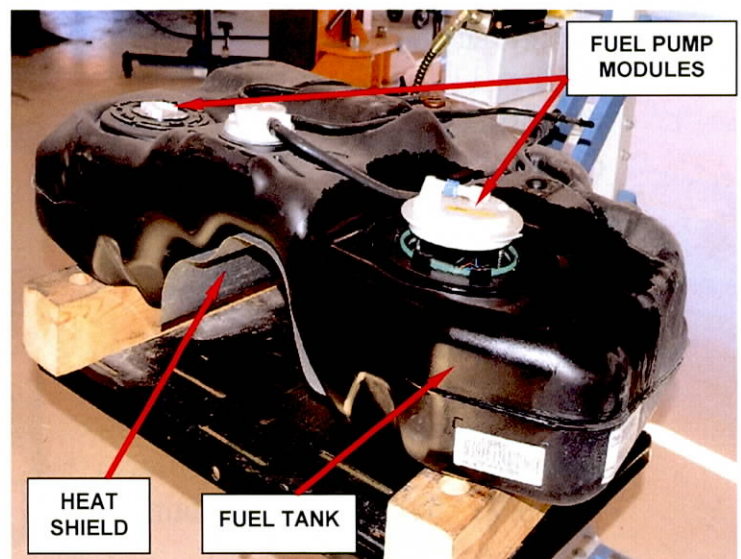

Figure 10 – Fuel Tank Assembly
23. Carefully lower the original fuel tank from the vehicle (Figure 10).
24. Transfer the fuel pump modules and heat shield from the original tank to the new tank (Figure 10).